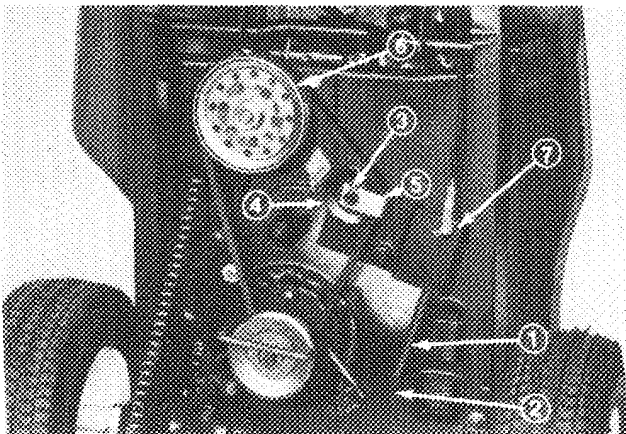
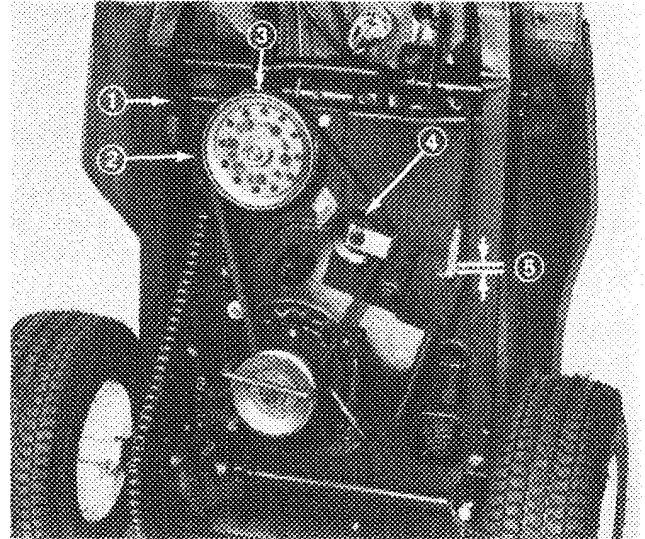

Figure 36
Figure 37
6. Disengage clutch spring from hole in bottom of chassis (Fig. 36). Also loosen the lock nut on idler pulley until belt guide can be removed (Fig. 36).
7. Loosen lock nut holding transmission pulley belt guide in place (Fig. 37); then move belt guide to the side.
8. Remove traction drive belt from idler pulley; then rotate belt off transmission pulley and small engine pulley (Fig. 37).
pulley; then tighten cap screw and lock nut. Tension the belt by hooking clutch spring into hole in chassis (Fig. 36). There must be 1/16 of an inch between front of clevis pin and slot in bracket (Fig. 37). If an adjustment is needed, loosen jam nut, and remove cotter and clevis pin. Rotate clevis until adjustment is correct.